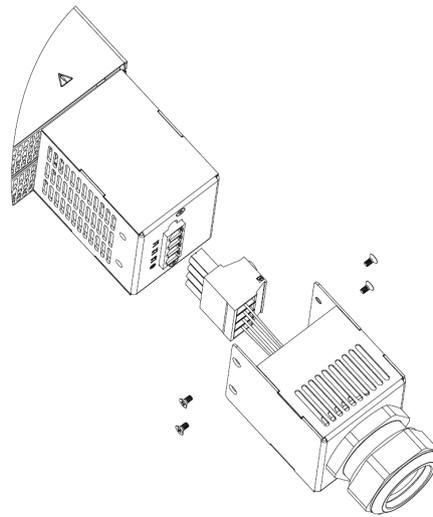
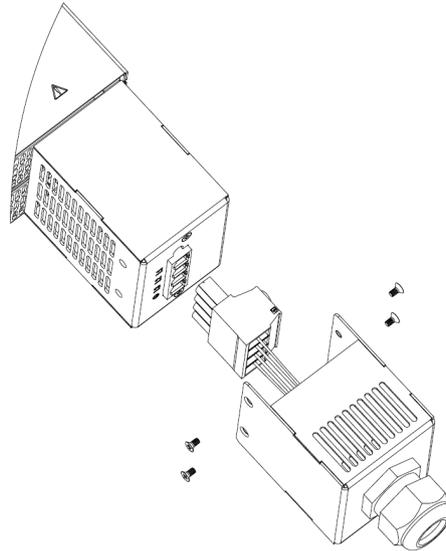

Figure 4-30: AC Wires Fixed to the 3-Phase 200 AC Connector
Figure 4-31: AC Wires Fixed to the 3-Phase 400/480 AC Connector
6. Insert the AC wires into the AC input connector. For 3-Phase 200, refer to Figure 4-30. For 3-Phase 400/480, refer to Figure 4-31 (10kW is shown, it applies to 15kW as well).